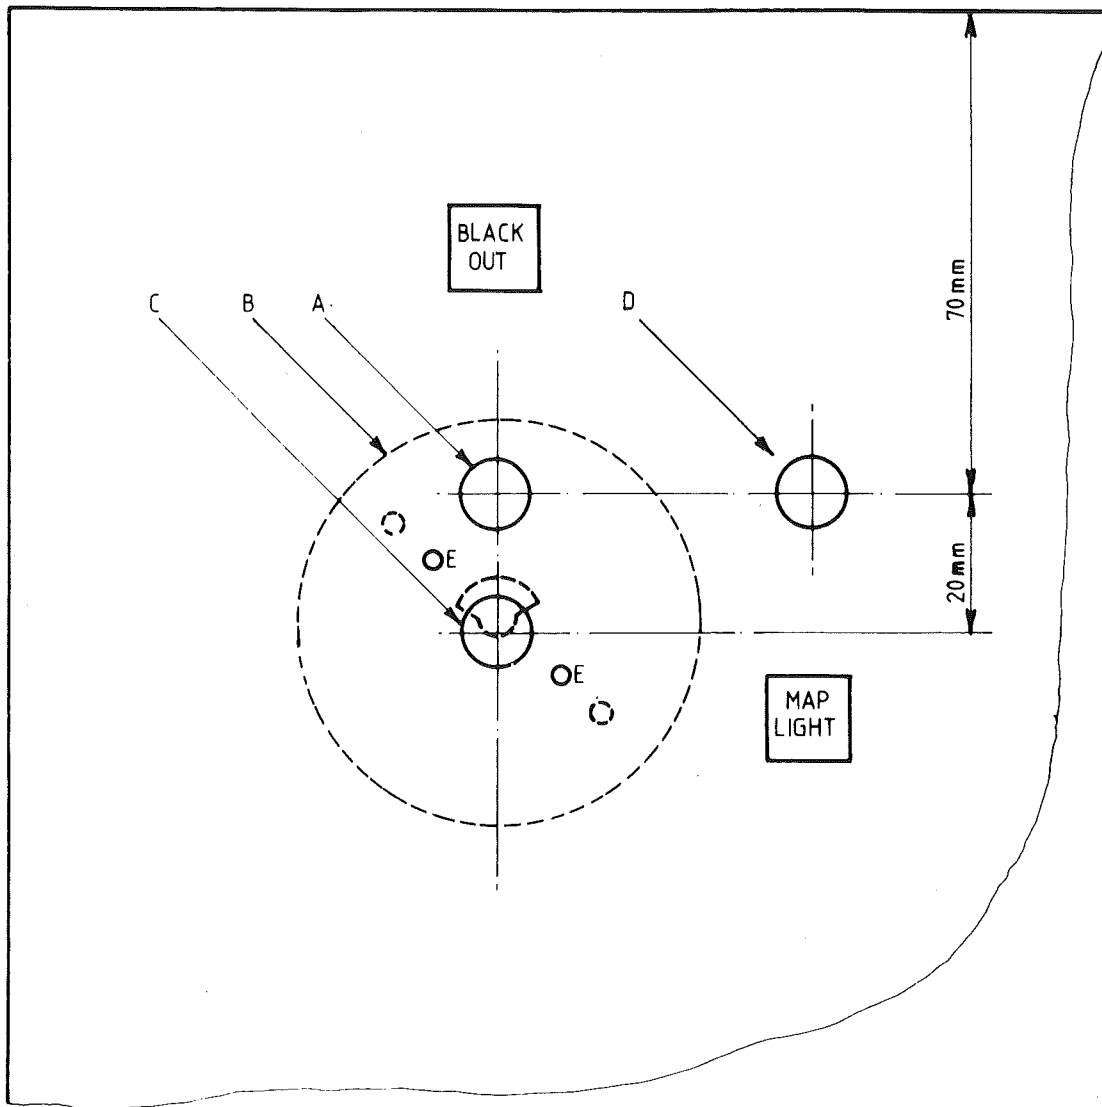

FIG 1 - MOUNTING HOLES - BLACKOUT SWITCH PANEL
- e. Drill holes C and E as shown in Fig 1, using SANTON Mounting Plate as a Template.